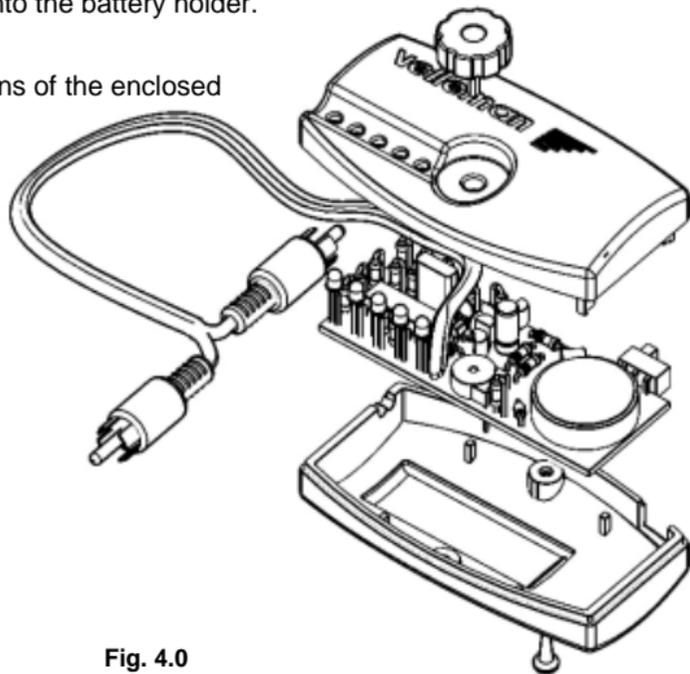

Fig. 4.0
- ❑ Mount all parts and close the housing by means of the enclosed screws, see figure 4.0.